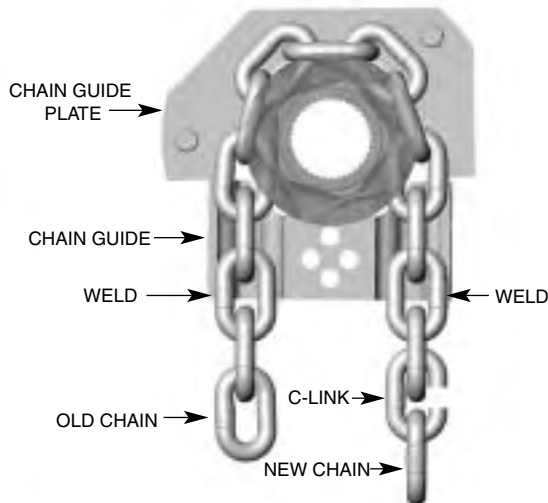

FIGURE 5-3. CHAINING HOIST
- e. Make a "C"-shaped chain link by grinding through one side of the end link of either the old or new chain. See Figure 5-3.
2. Motor brake requires adjustment.	2. Check motor brake adjustment. See Figure 5-3.